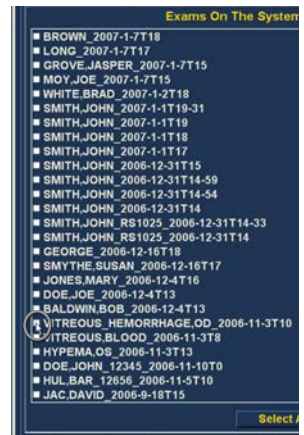

Figure 8.3 - Selecting the First Exam
1. Click in the checkbox beside the exam name as shown in Figure 8.3.